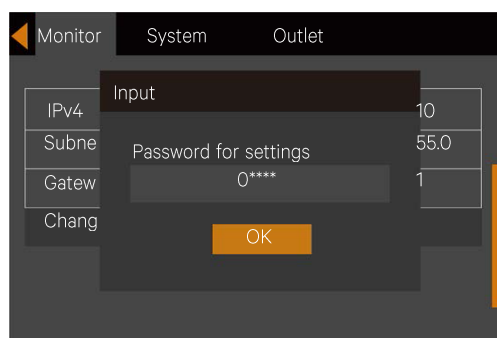

Figure 5-22 Password for settings
3. Press the key, the interface shown in Figure 5-22 is displayed.